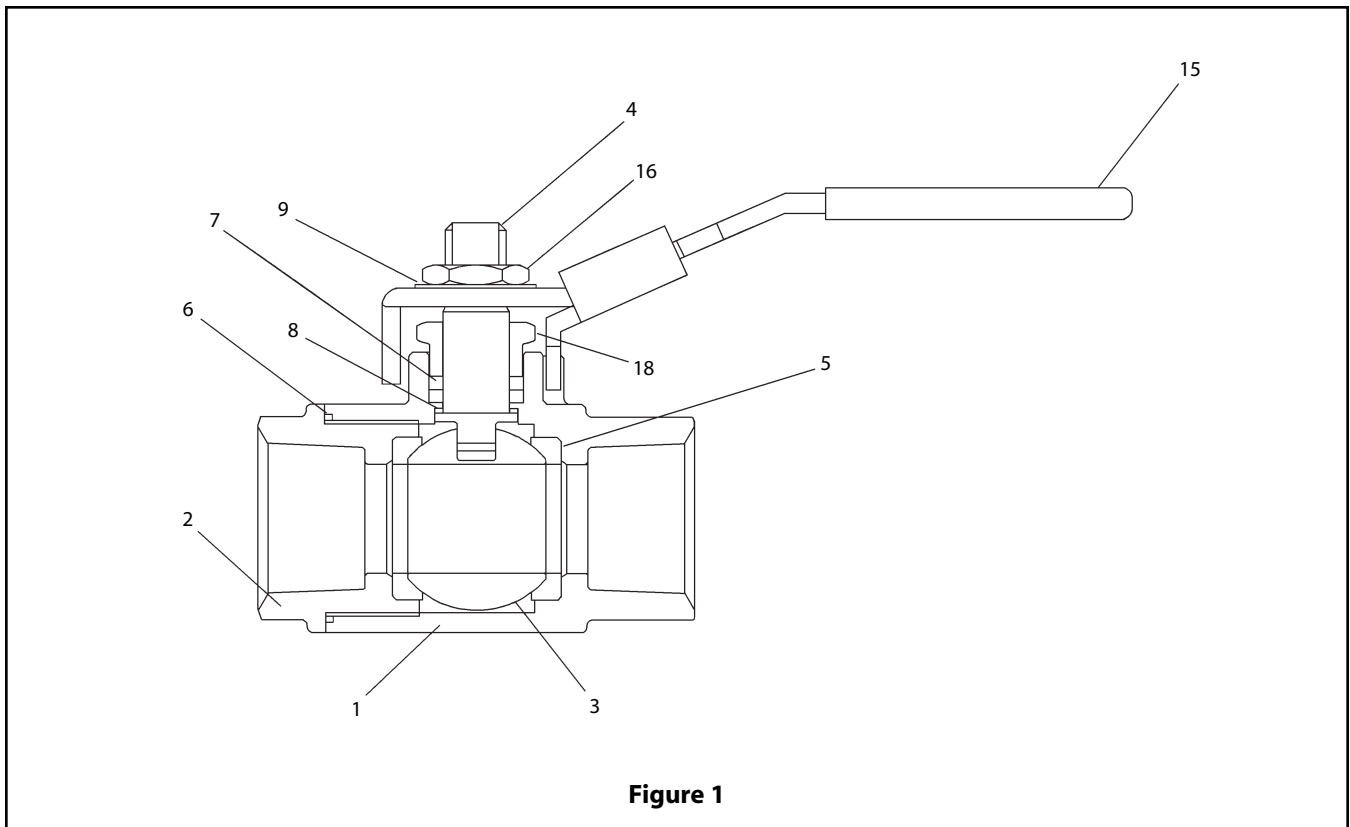

Figure 1
1. Close the valve. Remove the stem nut (16), shakeproof washer (9), handle (15), and gland nut (18). (See Figure 1).
2. Unscrew and remove the body cap (2) and seal (6). Loctite® is applied to the cap (2) at assembly so heat may be required.
3. If the ball (3) and seats (5) do not fall from the body with the ball in the fully closed position, then gently tap the ball (3) out from the end opposite the body cap (2). Be sure to use a soft material that will not damage the ball.
4. Push the stem (4) from the top of the valve into the body (3) and remove it through the body cap (2) end of the body (1).
5. Remove the stem bearing (8) and stem seals (7). The stem seals may have to be pried out. Be careful not to damage the gland nut (18) threads in the body (1).